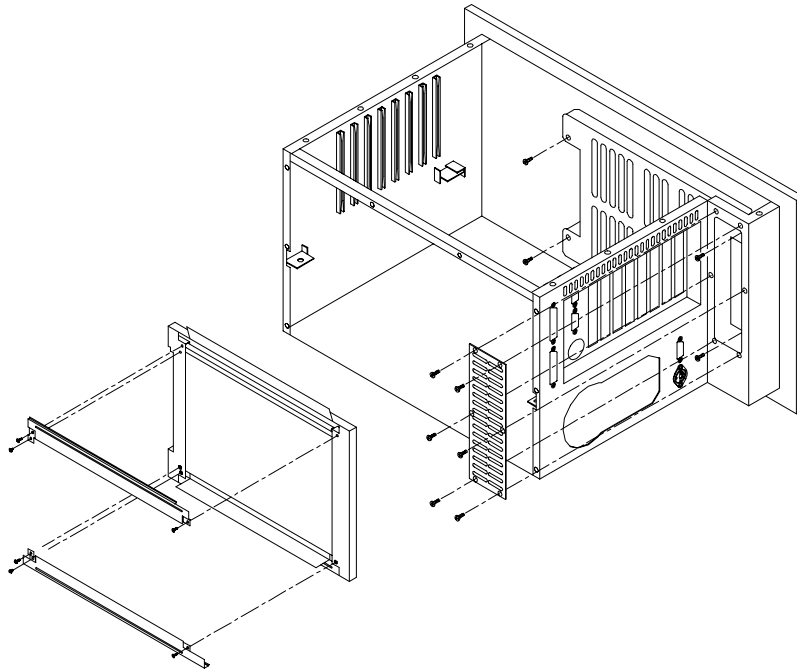

Figure 4-3: Installing the LCD backlight
7. Unscrew the screws on the LCD (see Fig. 4-3), and then change the backlight.